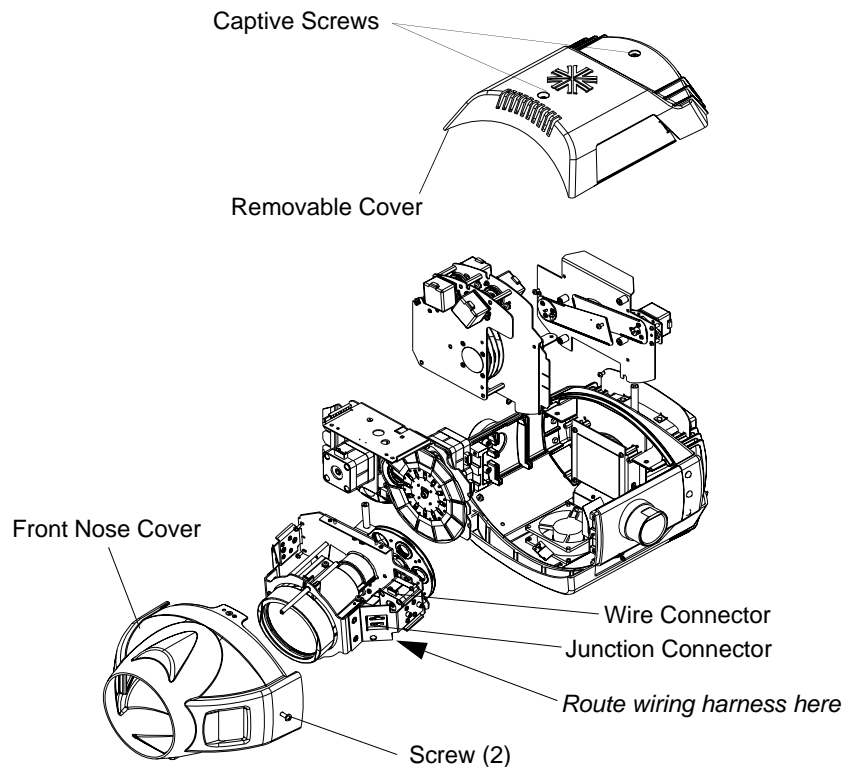

Figure 2-6: Front Assembly Removal
- a. Loosen two captive screws and remove top cover as shown in **Figure 2-6** (the cover is attached by tether).
- Step 3. Remove front nose cover by removing two 10-32x1/2" PPB screws (one on each side). **Figure 2-6.**